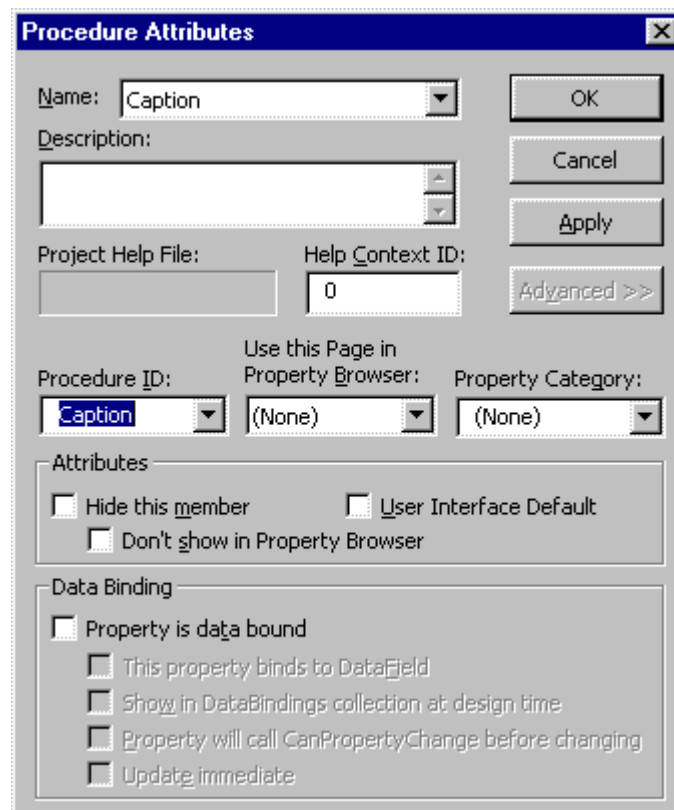

Figure 8. Choose the Caption procedure ID value for the Caption property.
- Click the **Advanced** button, and, in the **Procedure ID:** list, select the **Caption** item. This choice indicates to Visual Basic that this procedure represents the Caption property for this object, and so it can add the appropriate Property window behavior. Click OK when you're done. Figure 8 shows the dialog box, once you've completed your mission.